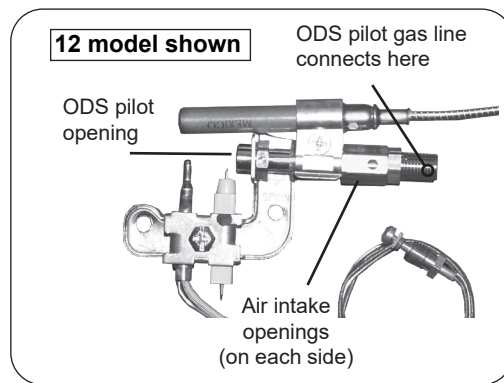

Fig. 27-1
1. Turn the burner system to the **OFF** position and allow it to cool. Inspect the ODS pilot area (see Fig. 27-1) for any visual contamination or debris (usually lint, hair, spider webs, or small insects). Lightly brush off all external surfaces while vacuuming loosened debris from the ODS pilot opening. **Be careful not to brush any foreign material into the ODS pilot opening.**
2. Clean out the air intake openings (see Fig. 27-1) by lightly brushing around the openings while vacuuming.
4. If the ODS pilot flame does not burn as indicated in the instructions, extinguish the ODS pilot by turning the valve to the full **OFF** position. Using a compressed air duster, insert the flexible nozzle through the air intake openings, ensuring that the nozzle is pointed toward the ODS pilot opening (see Fig. 27-1). Blow air through the intake openings to clear out any debris that may be in the system.
5. Relight the ODS pilot and inspect it to be sure it is burning as shown in the instructions. If not, extinguish the ODS pilot and **turn off the gas supply to the burner system.** Using an adjustable or a 1/4" wrench, disconnect the ODS pilot gas line (see Fig. 27-1) from the valve.